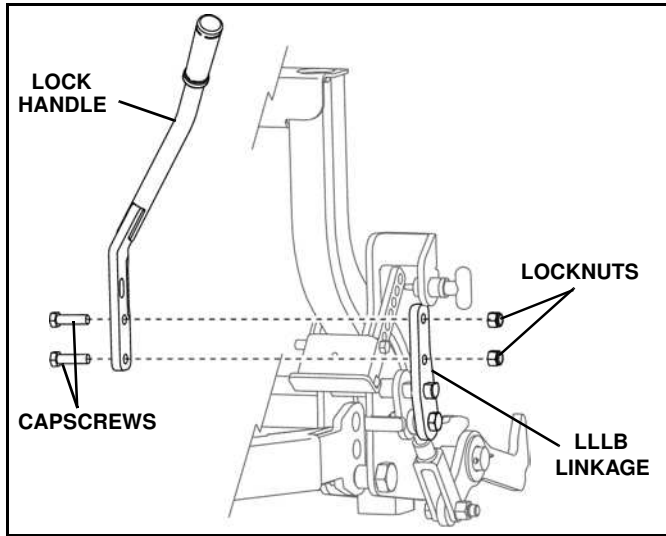

Figure 1-21
27. Position the lock handle on the Lower Light Lift Bar linkage and secure with two 1/2"-13 x 1-3/4" cap screws and two 1/2"-13 lock nuts. (See Figure 1-21).